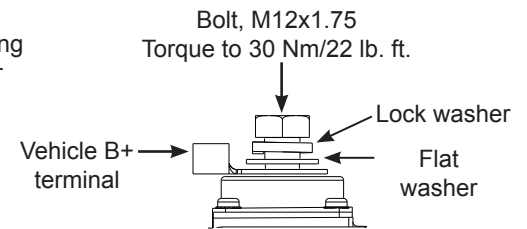

Figure 2: B+ Terminal Hardware Stacking Order
5. Connect battery B+ cable to alternator B+ terminal. Install terminal hardware in stacking order shown in Figure 2. Torque hardware to 30 Nm/22 lb. ft.